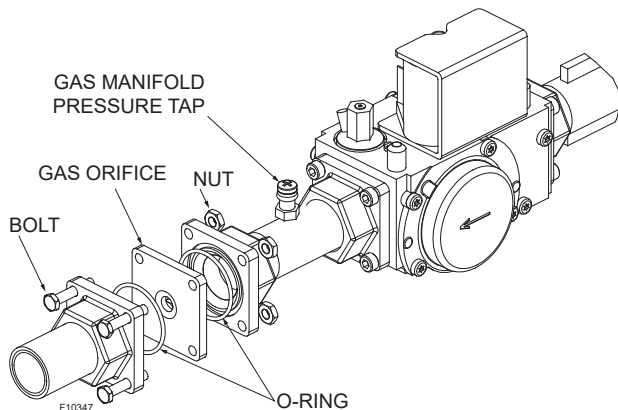

Figure 43. Gas Train
1. Gas manifold pressure is measured at the pressure tap between the gas valve and gas orifice (See **Figure 43**).
4. Locate and remove the (4) bolts & nuts holding the gas orifice in place. See **Figure 43** below.